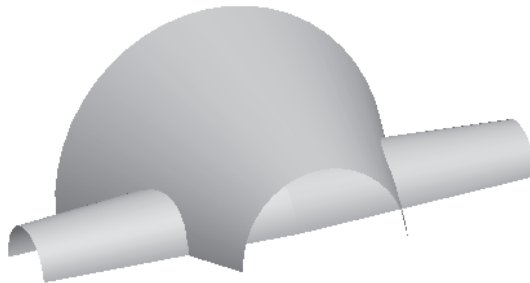

Figure 14-76 Surface model after creating the third feature
- The third feature is a mirror feature that will be created by mirroring the second feature about a plane passing from the center, refer to Figure 14-76.
2. Select the **FRONT** datum plane and exit the **Mirror** dashboard by choosing the **Build Feature** button. The mirror copy of the second feature is created, as shown in Figure 14-76.